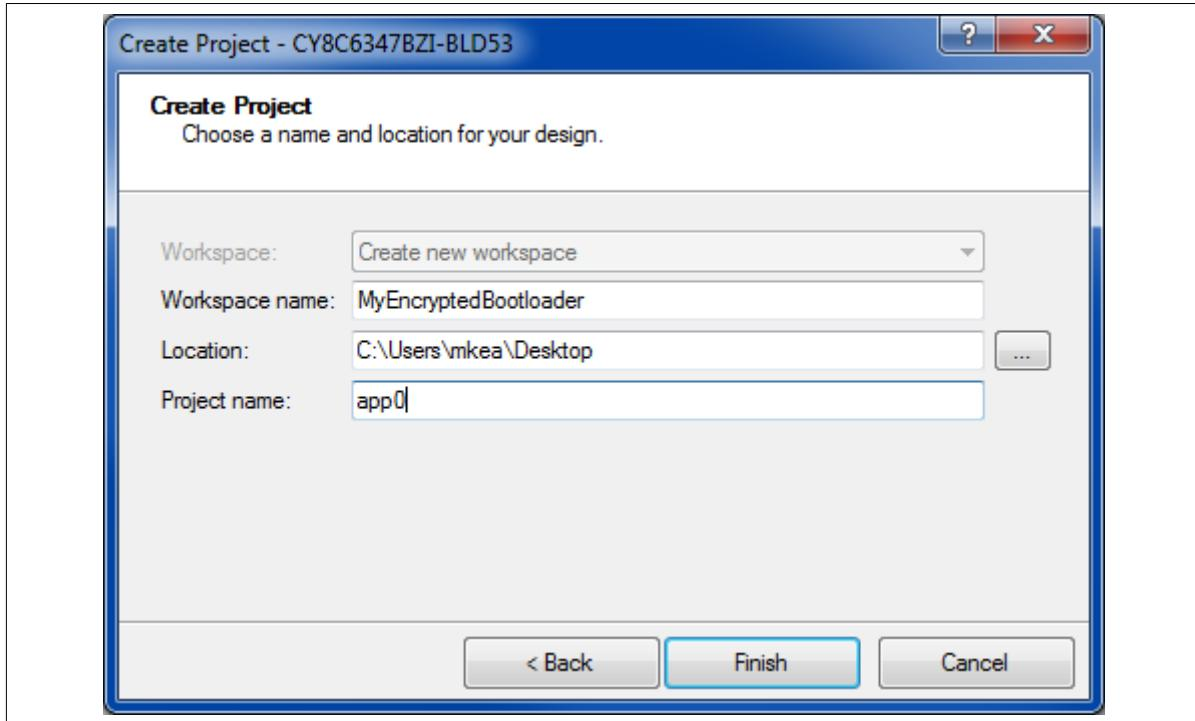

Figure 593 PSoC Creator create encrypted bootloader App0
1. Create App0 and the workspace, as Figure 593 shows